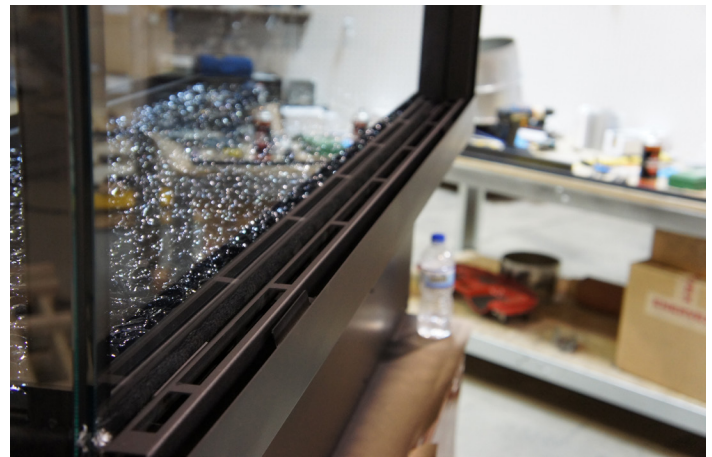

Figure 6D.5
4. Place the long horizontal trim piece between the lower glass clips. Slide back against the vertical trim piece. See Figure 6D.5 and Figure 6D.6.